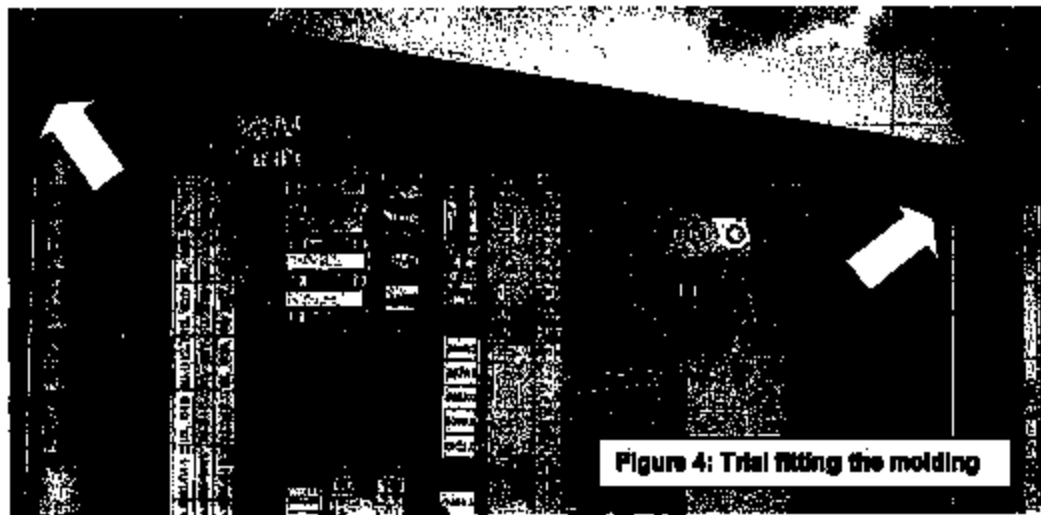

Figure 4: Trial fitting the molding
- 4) Install the molding. Check for proper fit, particularly at the corners (see Figure 4).